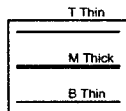

Fig.2
- 4) If the focus at points T and M is as shown in Fig. 2, adjust V-DBF in the menu with the front buttons to make the horizontal lines have the same thickness at points T, M and B. And adjust the FOCUS-A VR again to make the horizontal lines sharpest at points T, M and B. (V-DBF should not be adjusted when focus at points T and M is optimum.)